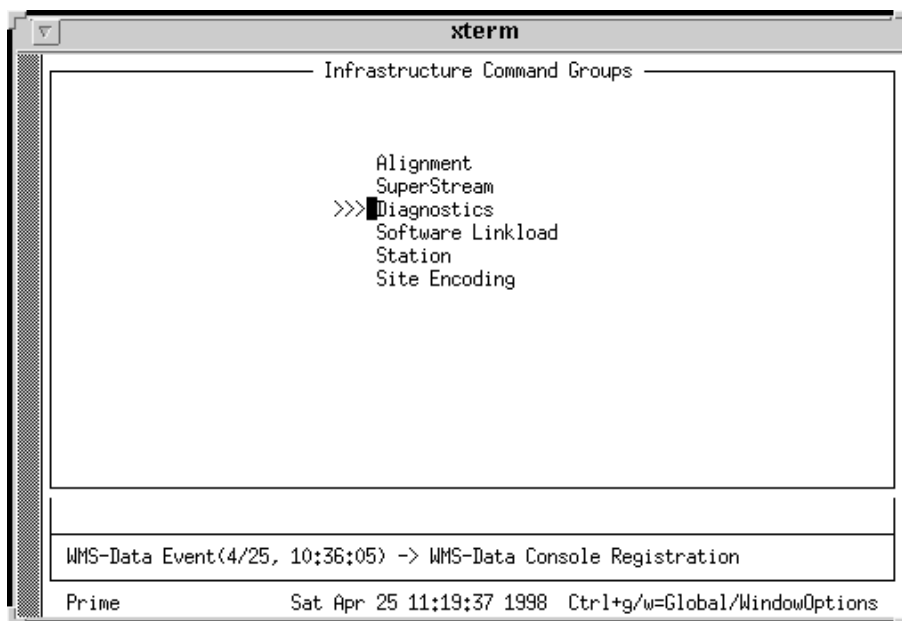

Figure 5-1: Diagnostic Menu
1. From the Infrastructure Command Groups menu, use the <tab> to position the cursor to the left of the listing Diagnostics and press: <Return> (see Figure 5-1).